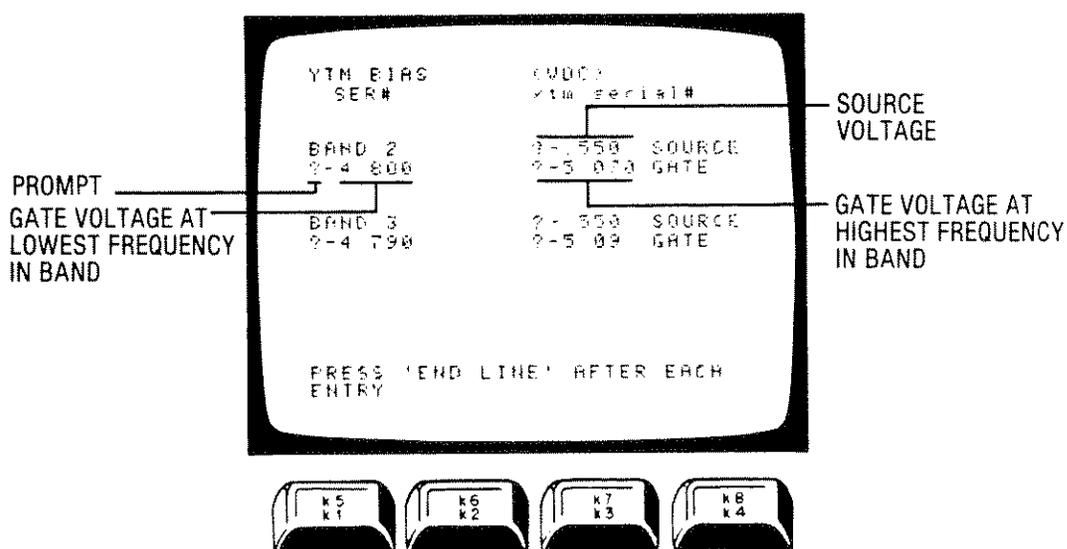

Figure 5-18. Format for Entering SRD Bias Voltages
- a. Source and gate dc bias voltage values are entered into the controller as shown in Figure 5-18. The bias voltages are listed on the YTM label located inside the Signal Generator near the A2A5 assembly on the A2 Controller chassis. The question mark (?) is used as a prompt to indicate when and where data should be entered.